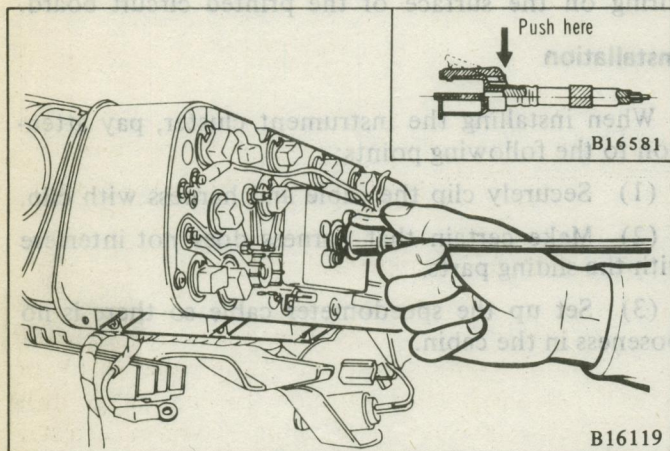

Fig. 91 Installing the Speedometer Cable
- (2) When connecting cable to the speedometer, insert the cable until its stopper properly fits in the speedometer side groove. After the cable has been installed, pull it to see if its stopper is properly in the groove. (Fig. 91)
NOTE: When disconnecting the cable from the speedometer, withdraw the cable from the cluster during pacing down the cable stopper as shown in Fig. 91, and then pull out the cable.